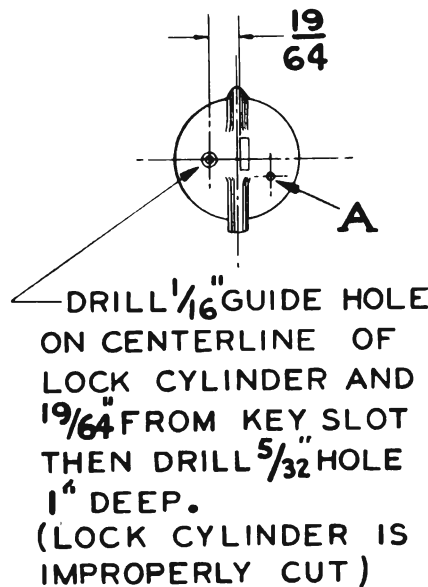

Fig. 12-43
- Drill a $\frac{1}{8}$ " diameter guide hole 1" deep in lock cylinder as shown in Fig. 12-43. Hole must be in exact location as shown. Insert key in lock to scale the $\frac{1}{4}$ " dimension from edge of key. Using this $\frac{1}{8}$ " hole as a pilot, drill a $\frac{5}{32}$ " diameter hole 1" deep in lock cylinder.